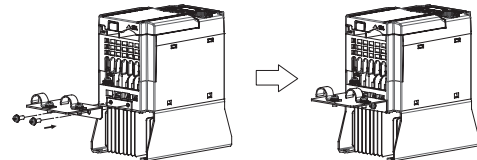

Figure1. Attaching the EMC Grounding Flange
- (1) Mount the EMC grounding flange (that comes with the inverter) to the inverter with screws in order to ground the wire shield(s). (See Figure 1.)